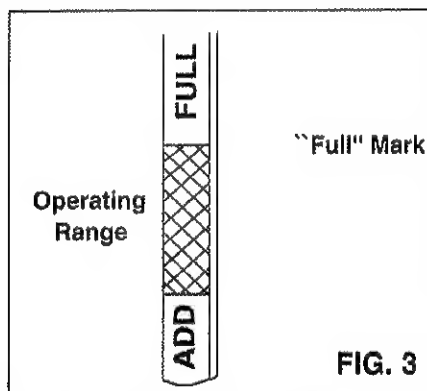

FIG. 3
- 1/ Check that the engine is filled with the right oil (SAE 10W-30) and to the recommended mark - never overfill. (see Fig. 3)